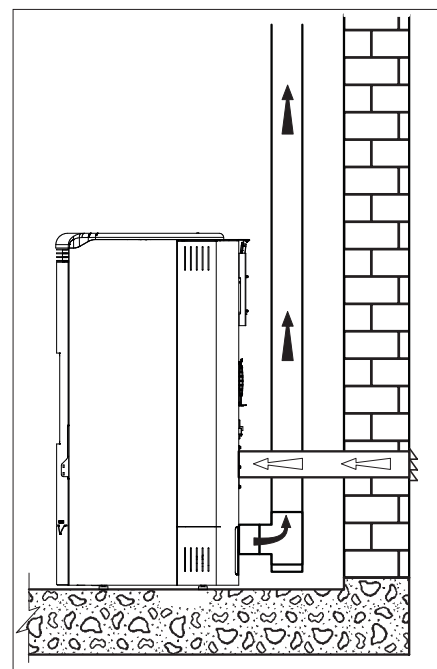

Fig. 5.4d
- connect the combustion air inlet of the stove to the air intake with a dedicated duct (Fig. 5.4d).